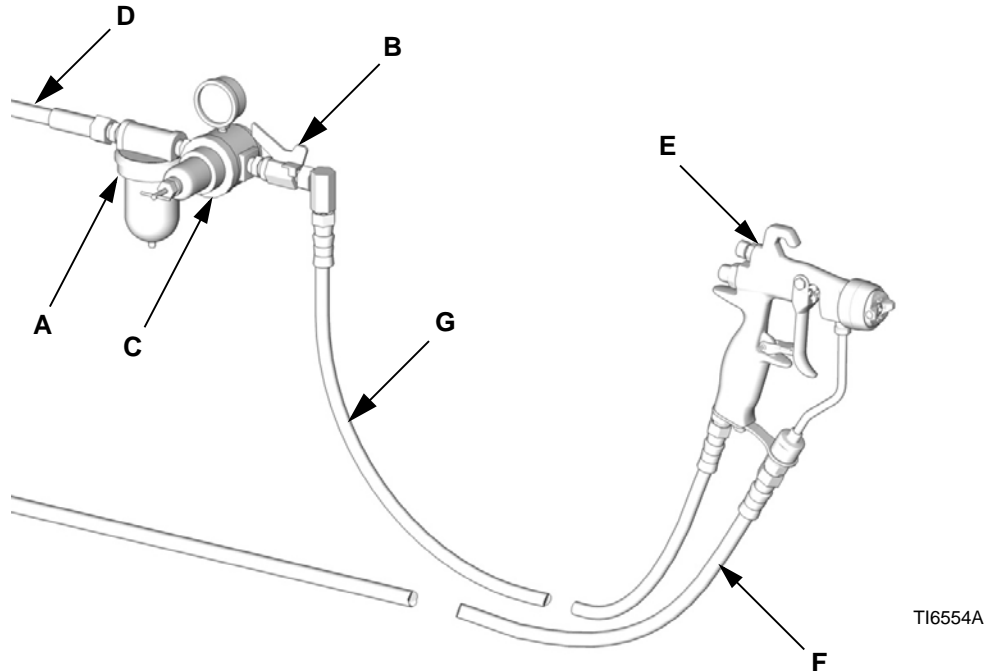

Fig. 1: Typical Installation (Model G15 Shown)
The typical installation shown in FIG. 1 is only a guide for selecting and installing air-assisted spray systems. Contact your Graco distributor for assistance in designing a system to meet your needs.
1. Install an air filter (A) on the gun air line to ensure a dry, clean air supply to the gun. Dirt and moisture can ruin the appearance of your finished workpiece. See FIG. 1.
2. Install an air pressure regulator (C) on the gun air line to control air pressure to the gun.
3. Install an air shutoff valve (B) on the gun air line and on the pump air line, to shut off air to the gun.